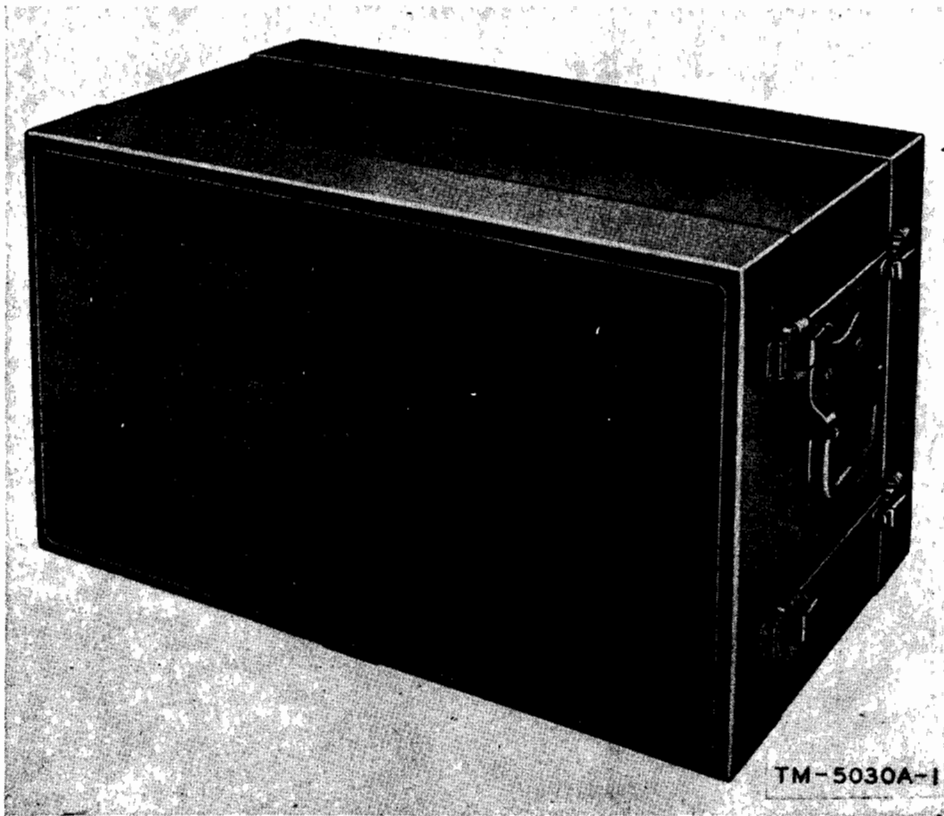

Figure 1. Signal Generator TS-497B/URR, outside view.
a. Signal Generator TS-497B/URR (fig. 1) is a portable unit which provides r-f (radio-frequency) test signals over a range of 2 to 400 mc (megacycles) in six bands.